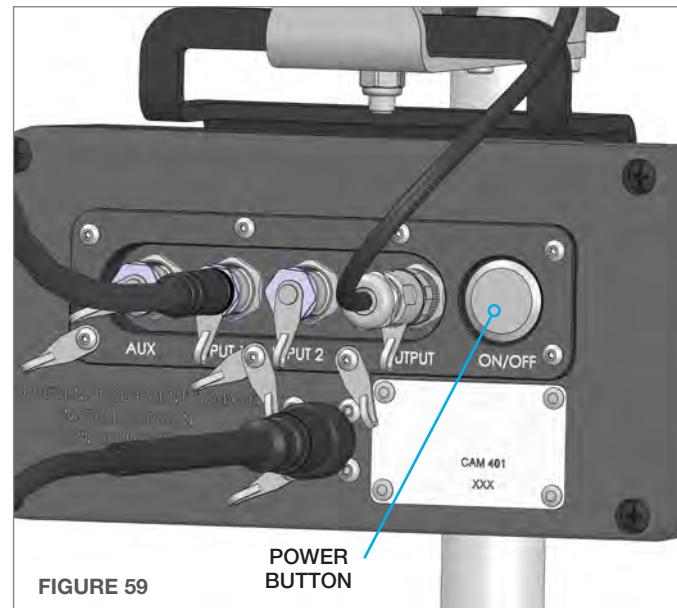

FIGURE 59
- Push the Power Button ON the Power Pack. This will activate the Monitor Screen on the Control Box and allow sight into the Dome. (Figure 59)